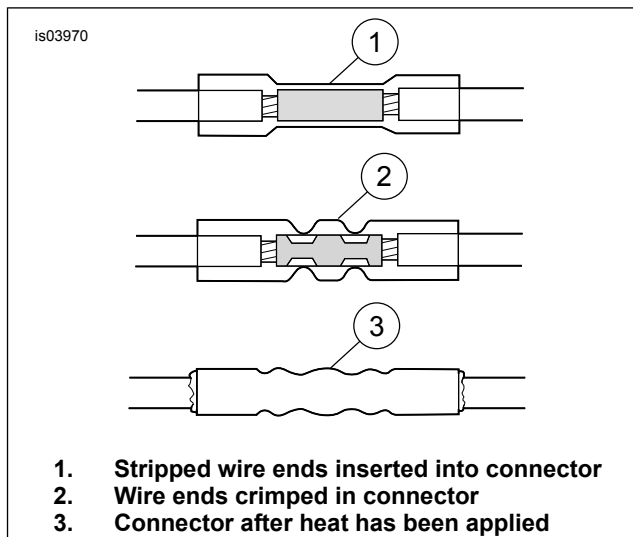

Figure 5. Sealed Splice Connectors
2. See Figure 5. Splice each set of cut wires into sealed splice connectors.
4. See Figure 5. Using an Ultra-Torch, Heat Gun with Heatshield Attachment, or other suitable radiant heating device: